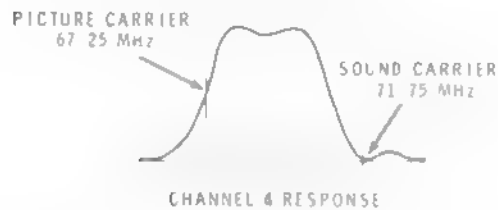

Figure 16C
- () Adjust the VHF tuner according to the manufacturer's instructions for the correct response for channel 4 as shown in Figure 16C.